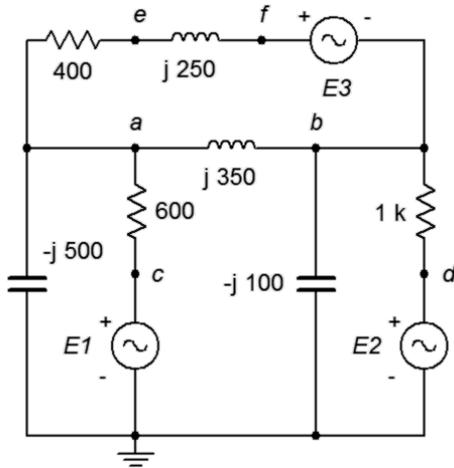

Figure 6.29
64. Given the circuit in Figure 6.29, use mesh analysis to determine  $v_{fc}$ .  $E1 = 12\angle 0^\circ$ ,  $E2 = 48\angle 0^\circ$ ,  $E3 = 36\angle 70^\circ$ .